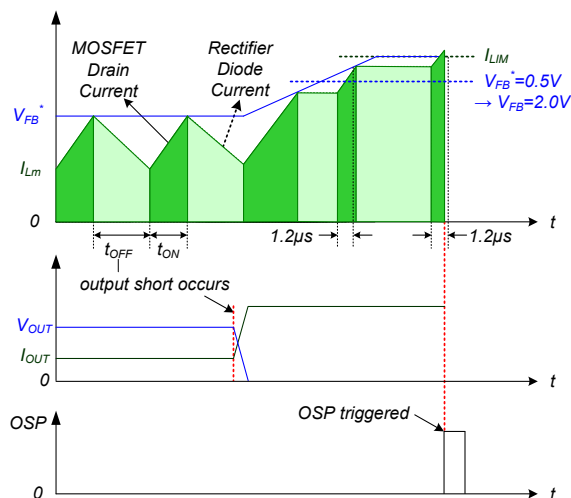

Figure 22. Output-Short Protection
4.3. Output-Short Protection (OSP): If the output is shorted, steep current with extremely high di/dt can flow through the SenseFET during the minimum turn-on time. Such a steep current brings high-voltage stress on the drain of the SenseFET when turned off. To protect the device from this abnormal condition, OSP is included. It is comprised of detecting V_{FB} and SenseFET turn-on time. When the V_{FB} is higher than 2V and the SenseFET turn-on time is lower than $1.2\mu s$, the FSGM0465R recognizes this condition as an abnormal error and shuts down PWM switching until V_{CC} reaches V_{START} again. An abnormal condition output short is shown in Figure 22.